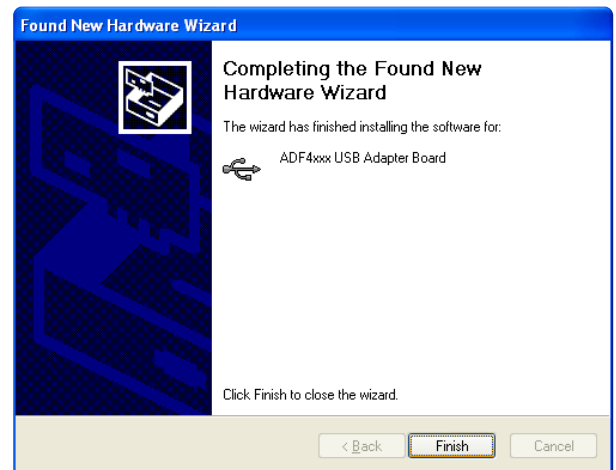

Figure 16. Windows XP USB Adapter Board Driver Installation, Complete Installation
3. Connect your SDP board (black) or USB adapter board (green) by USB. If you are using an SDP board, the drivers install automatically, and you are ready to run the software. If you are using a USB adapter board on Windows XP, follow the steps in the Windows XP Driver Installation Guide section (see Figure 13 to Figure 16).